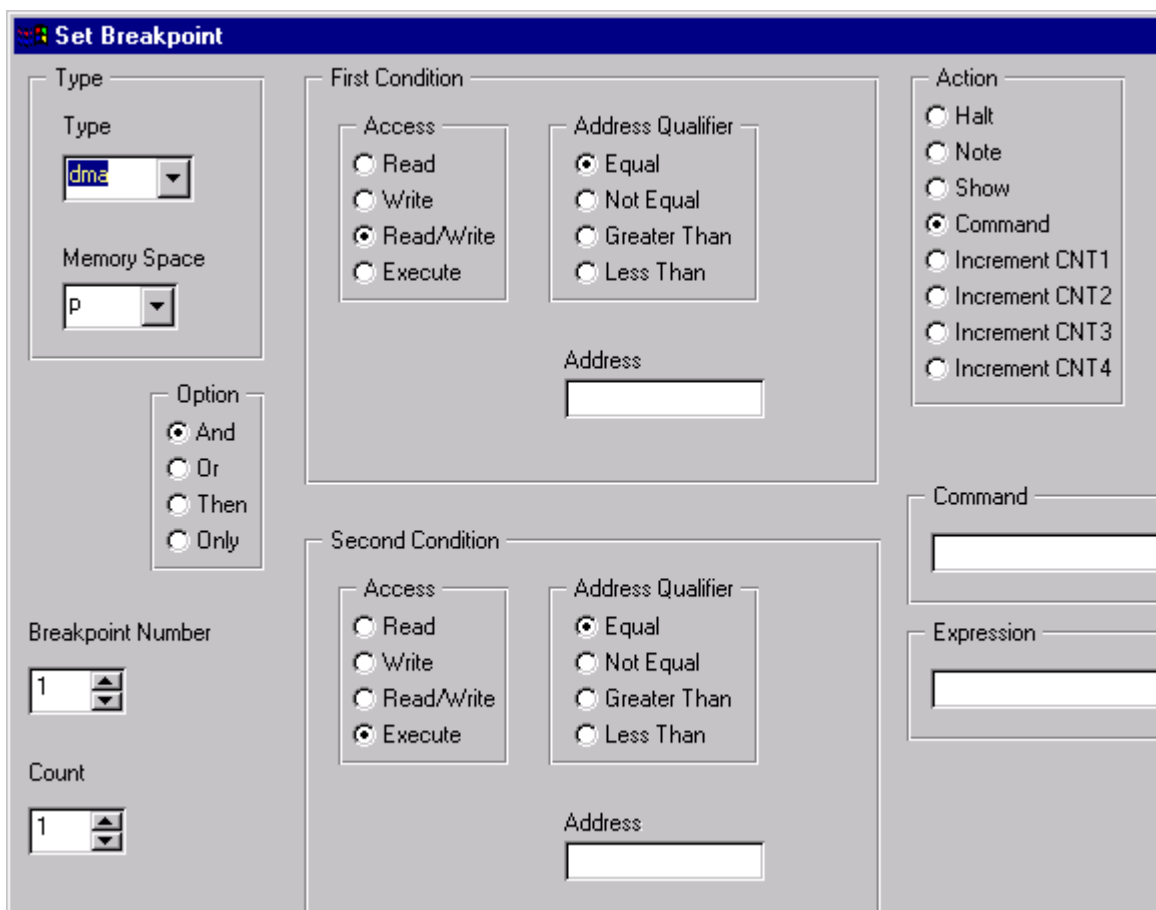

Figure 3-6. Setting a Software Breakpoint
1. From the **Execute** menu, choose **Breakpoints**, then select **Set Software**. The **Set Breakpoint** dialog box shown in Figure 3-6 appears.